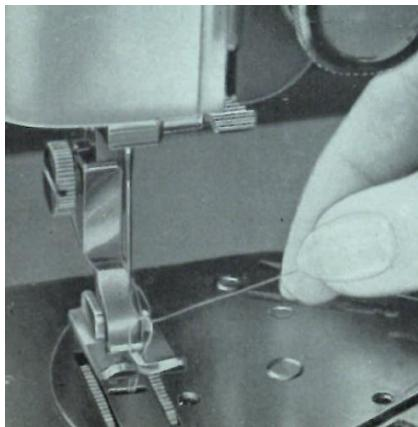

Figure 20
- c) Now, by drawing upper thread by hand, lower thread will be pulled up through the stitch hole of the needle plate as shown in Figure 20.